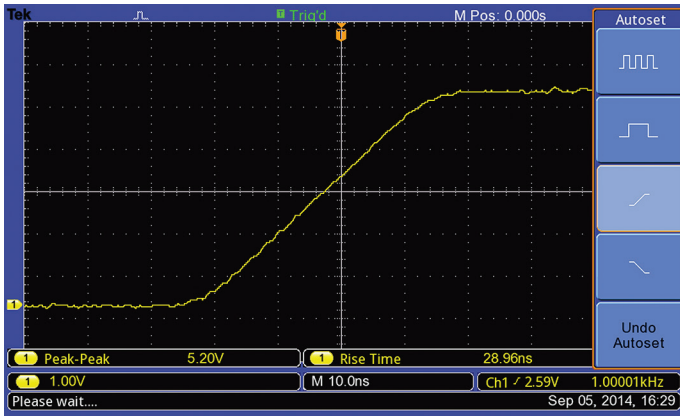

Figure 3. The rising portion of the signal fills the screen.
8. To find the voltage at which the rise time goes out of specification, decrease the voltage of the power controller slowly from max\_V to min\_V, while the temperature is held steady, until the rise time reaches the maximum value the system allows. Press the "Trend Plot Run/Off" bezel button to stop the Trendplot. The final voltage is the minimum that results in a valid rise time. (see Figure 3).